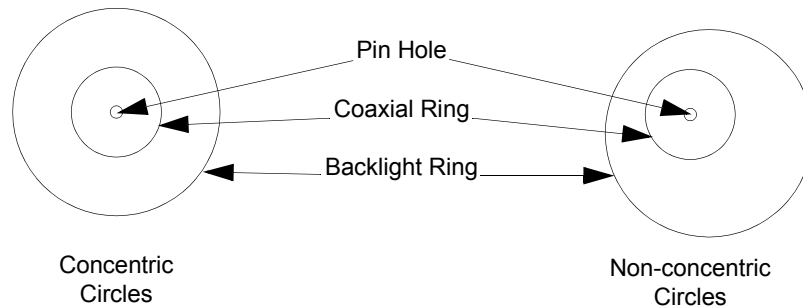

Figure 8-23 Backlight Pattern (paper)
7. After focusing and centering on the pinhole look at the pattern displayed on the paper. The inner circle (coaxial light) and the outer circle (backlight) should be concentric as shown in Figure 8-23.